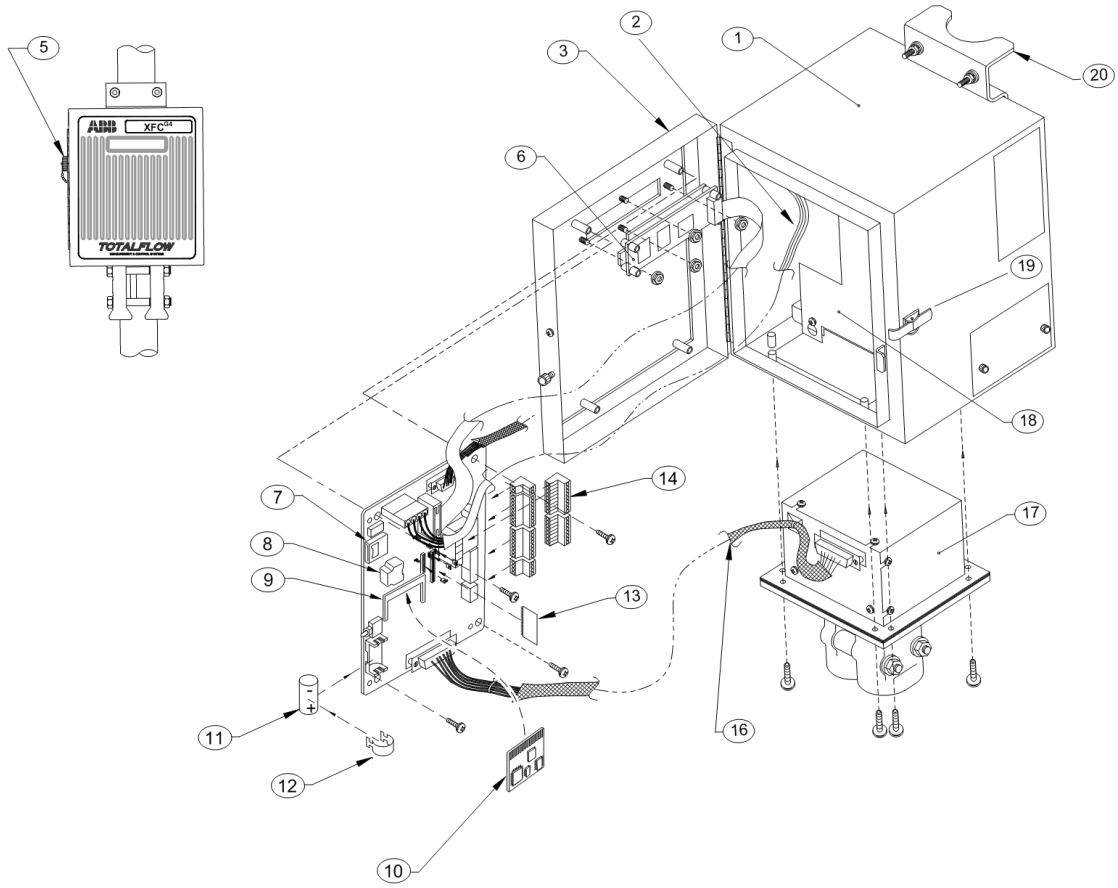
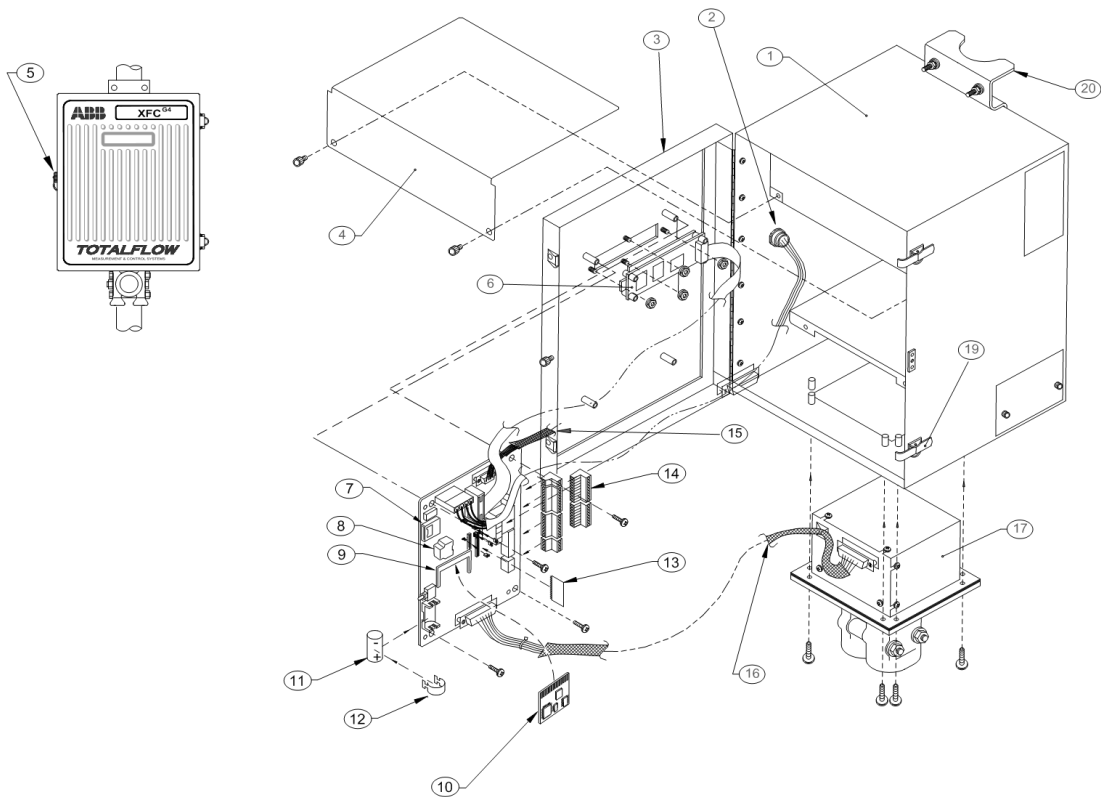

Figure 87: XFCG4 6410 Component/Cable Locations
Figure 88 XFCG4 6413 Component/Cable Locations
11. Remove the battery compartment cover (Figure 87: item 18).
The XSeries main electronic board is mounted to the backside of the flow computer access door on standoffs (Figure 87: or Figure 88). On models XFCG4 6713 and XFCG4 6714, the XFCG4 board is mounted below the LCD Screen.
15. Remove the four mounting screws and lock washers securing the flow computer panel (Figure 87: or Figure 88) to the door mounted standoffs.